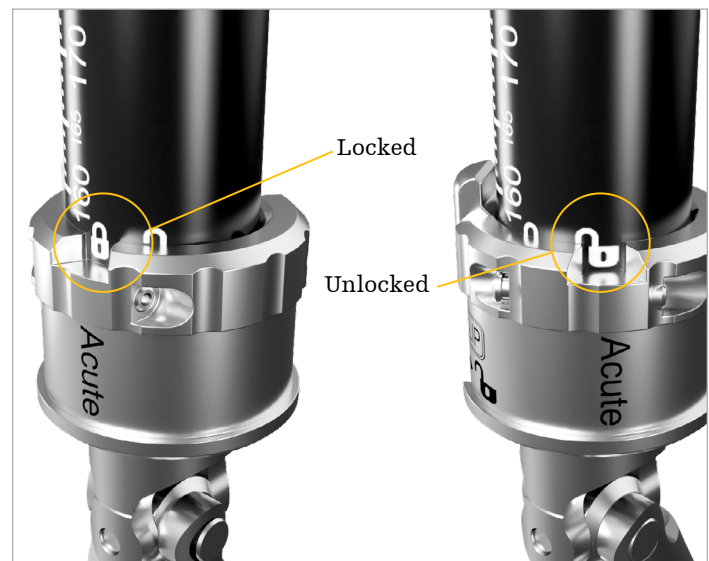

Figure 219
- The strut is locked when the slot on the quick release thumb knob aligns with the closed-lock icon on the outer tube. The strut is unlocked when the same slot aligns with the open-lock icon on the outer tube. **(Figure 219)**